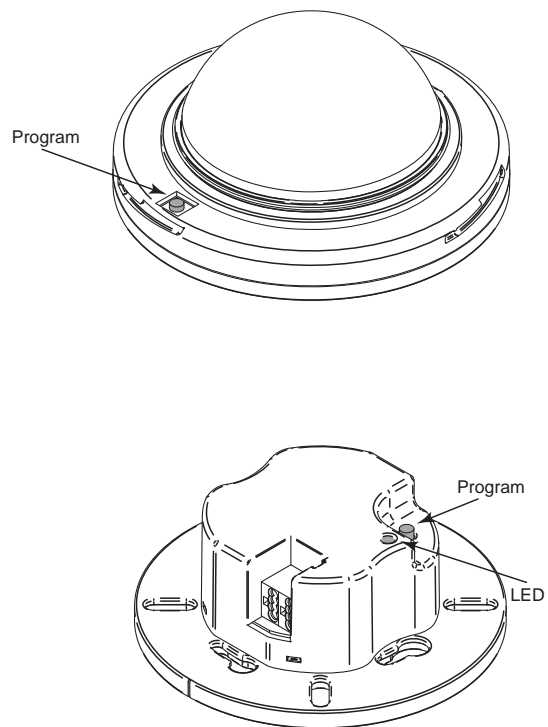

Fig. 7
- 3: Activate the "Prog." button on IR remote control 41-930 (accessory) when it is unlocked. **Fig. 7.**